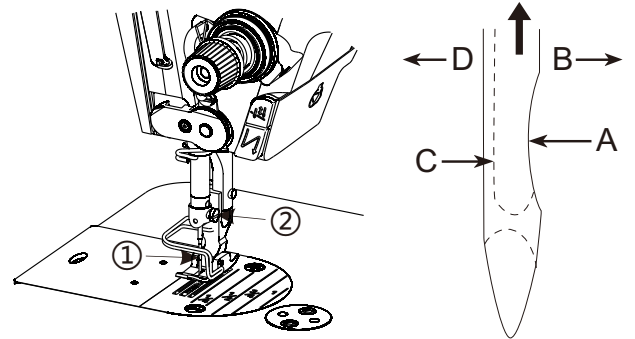

图10 Fig.10
1) 上图标样(见图10)可根据不同的缝纫工序需求进行增或减的微调整，但应注意不要增加或减少过多。油量过少时会引起旋梭发热，油量过多时会污染缝料。
1) The guide sample shown in the right-hand figure(see Fig. 10) may be finely adjusted (increased or reduced) as per different sewing processes; however, excessive increase or reduction shall be avoided. Too little oil mass may lead to rotating hook heating, and over much oil mass may lead to contamination of the sewing materials.
8 机针的装法 (图10) Mounting the Needle (Fig.10)